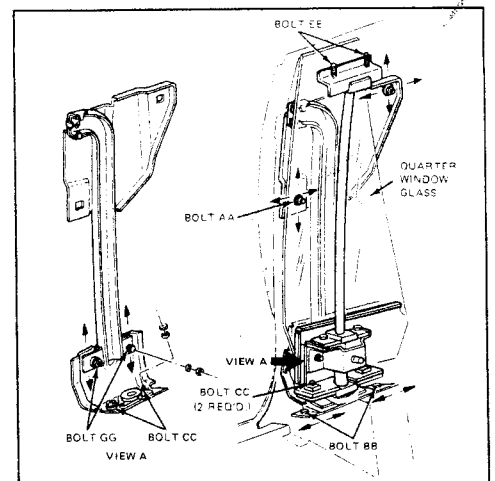

FIG. 7 Quarter Window Adjustment
- Up/down position of glass is obtained by adjusting the channel assembly quarter window guide by loosening the AA bolt and two GG bolts (Fig. 7).
- Fore/aft position is obtained by adjusting the AA bolt and two CC bolts Fig. 7).
- Inboard/outboard adjustment is obtained by loosening two EE bolts and two DD bolts (Fig. 7).